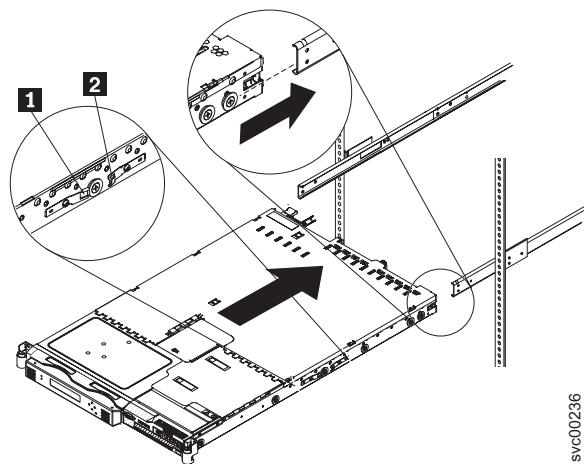

Figure 44. Aligning the SAN Volume Controller 2145-8G4 with the rack slides
3. Align the two rear wheels on the node with the opening in the slides and then push the node into the slides until the rear slide release latches ( **2** in Figure 44) click into place, locking the node in the slides.